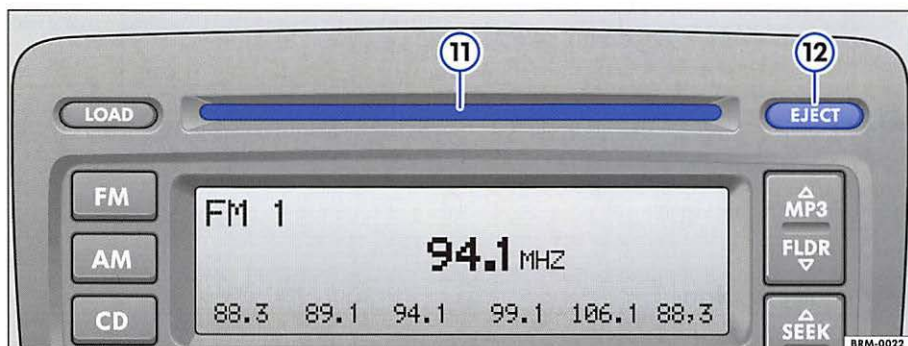

Fig. 17 CD slot and EJECT button
- Press briefly the **EJECT** button ⇒ fig. 17 12. **SELECT CD** will appear in the display.